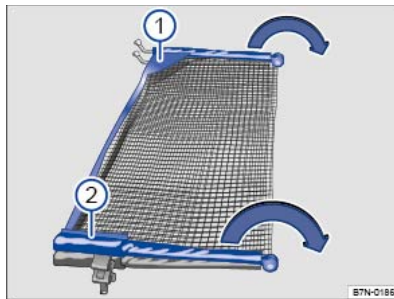

Fig. 184 Folding out the net partition.
Fold out the net partition side rods ⇒ *Fig. 184* ① and ② as shown by the arrow until it audibly clicks.